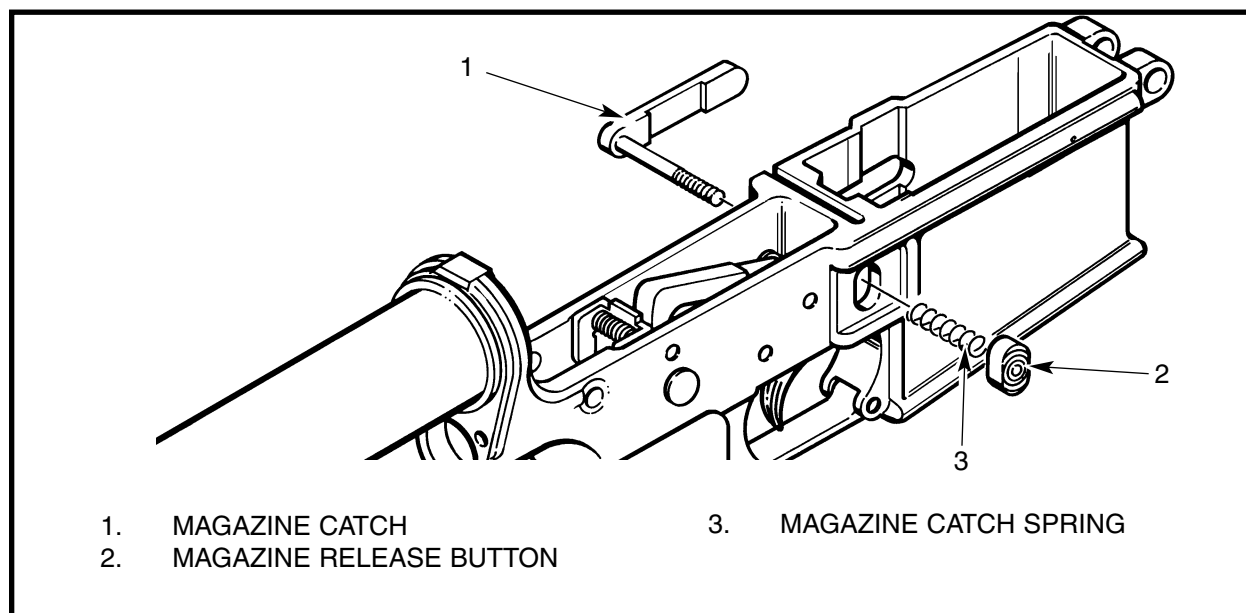

Figure 3-2-43 Disassembling the Magazine Catch
- c. Remove the magazine catch (1), magazine release button (2) and magazine catch spring (3). See Figure 3-2-43.